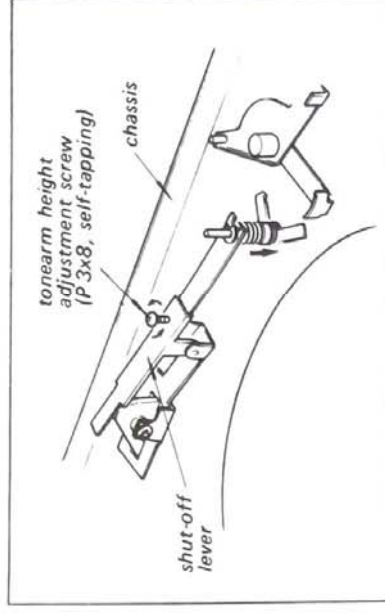

Fig. 3-3. Tonearm height adjustment
3. If necessary, adjust the height of the tonearm lifting platform by loosening the tonearm height adjustment screw as shown in Fig. 3-3.